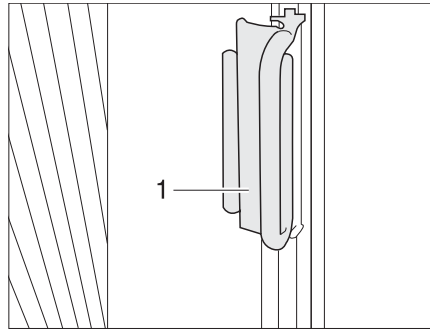

Fig. 19 Handle Roman shade for driver's and front passenger's windows
- Grip the Roman shades at both sides of the windscreen at the handle (Fig. 19,1) and pull carefully towards the middle of the windscreen until the magnetic catch keeps the Roman shade closed.
- Push the handle (Fig. 19,1) onto the attachment. The Roman shade is secured.